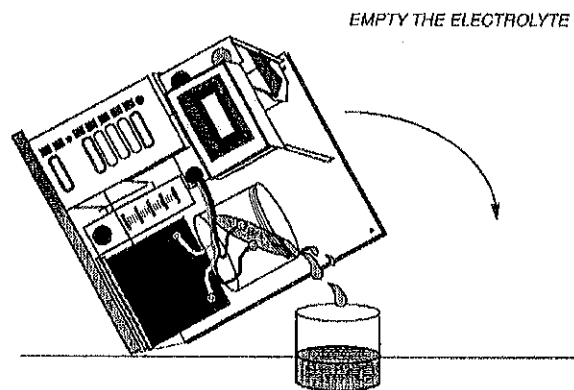

Figure 2-2. Removing Electrolyte.
2. If the electrolyte is being changed, remove the reservoir cover and drain the electrolyte into a suitable (polyethylene, etc.) container for proper disposal, Figure 2-2. Thoroughly flush the sensor 2 or 3 times with distilled or deionized water before recharging. Properly dispose of the spent electrolyte and rinse water.